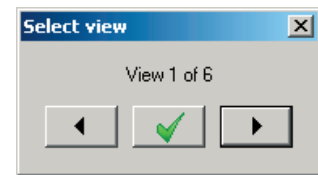
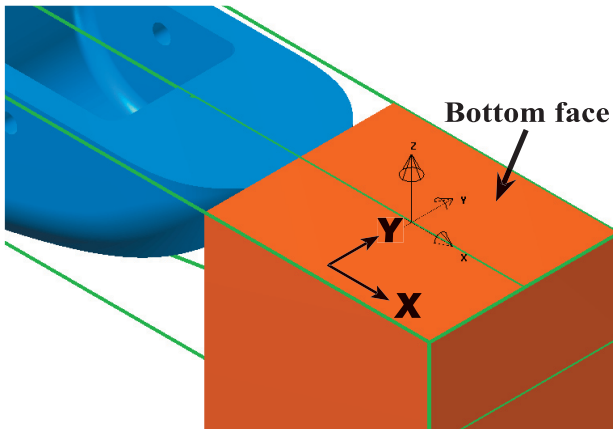

Fig. 54
Fig. 53
Step 6. Click the bottom face of the check solid, **Fig. 53**.
Step 7. Set X axes to point to the front and Y axes to point right, **Fig. 53**. This should be View 1, **Fig. 54**. Click OK  in the Select view dialog box.